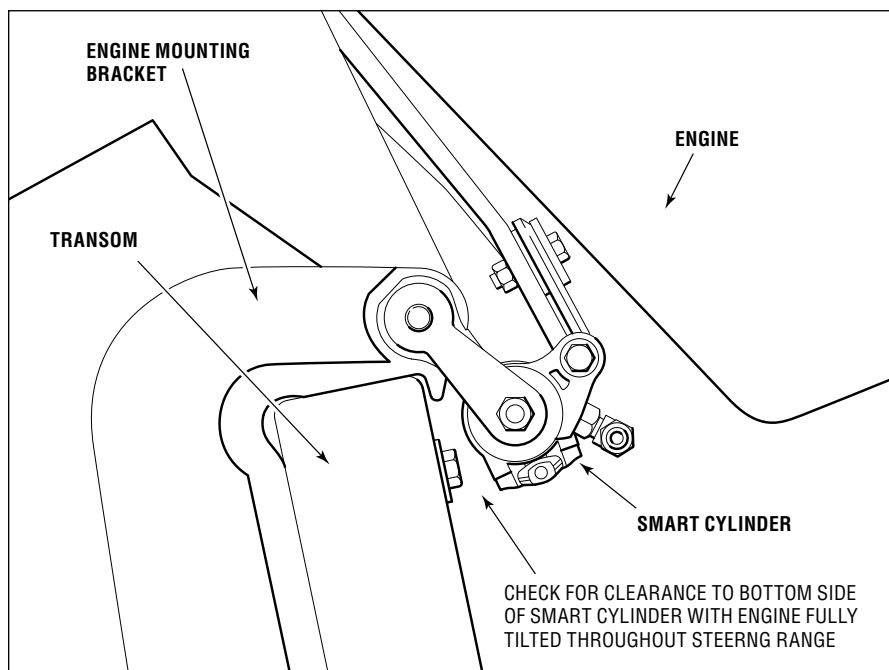
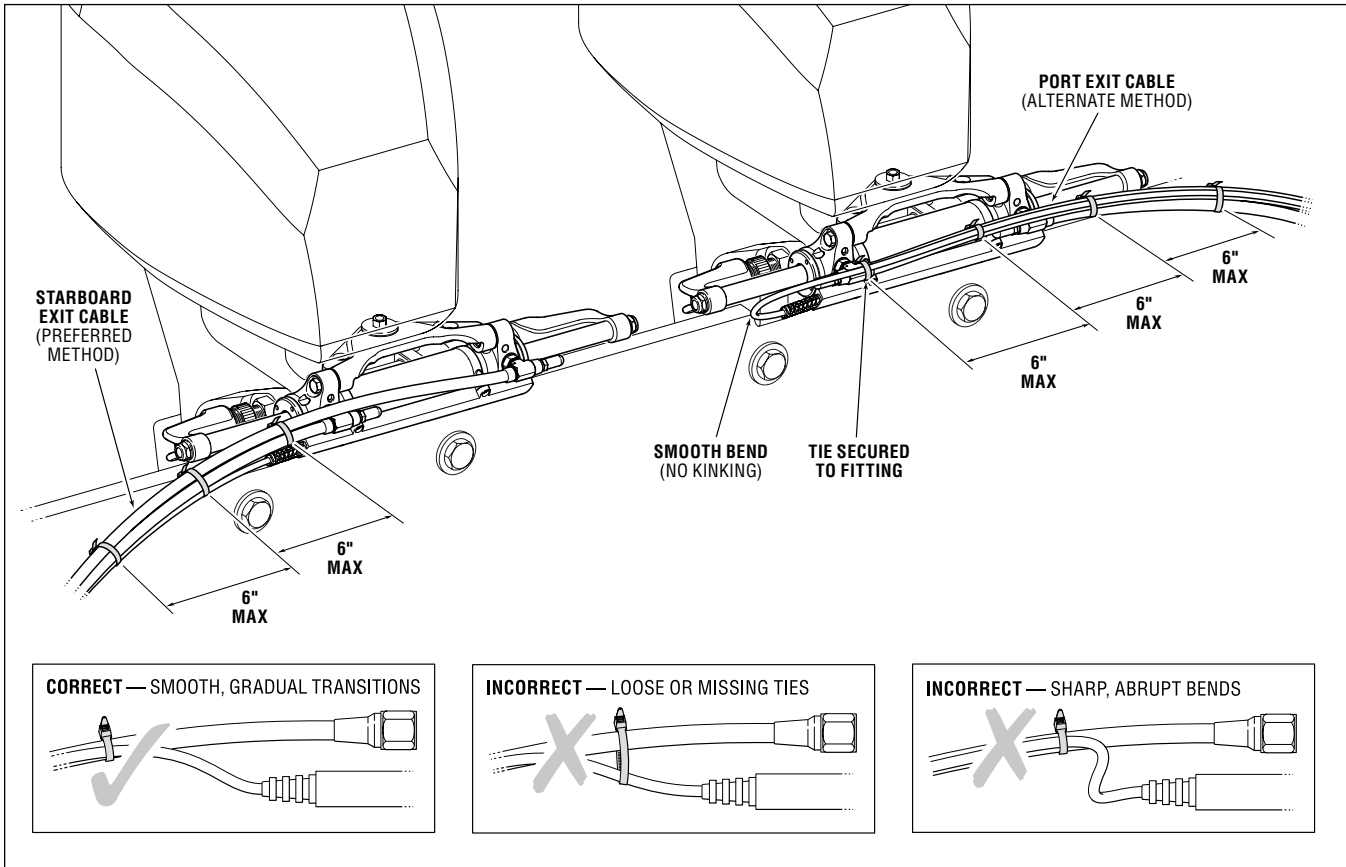

Figure 3-10. Engine side view when tilted.
Figure 3-11. Sensor cable and hose routing checks.
1a. Outboard Interference Checks – Confirm that there is no interference between the steering cylinder(s), splashwell, outboard engine(s), tie bars, or any combination of these parts, by performing the steps below. For each step also check that the hoses and harnesses are moving freely with no rubbing or binding (see figure 3-10 and figure 3-11). Be sure to steer slowly while performing these checks.
2. Sensor cable – Confirm that the SmartCylinder Sensor Cable is tied securely to the hoses with gradual bends as shown figure 3-11.